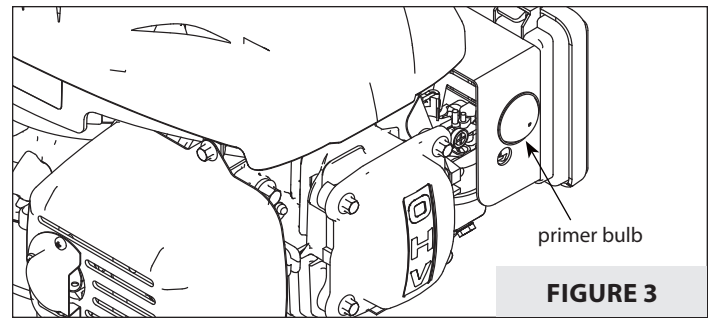

FIGURE 3
4. Press primer bulb three times. Let bulb fully recover between each depression. **SEE FIGURE 3.**